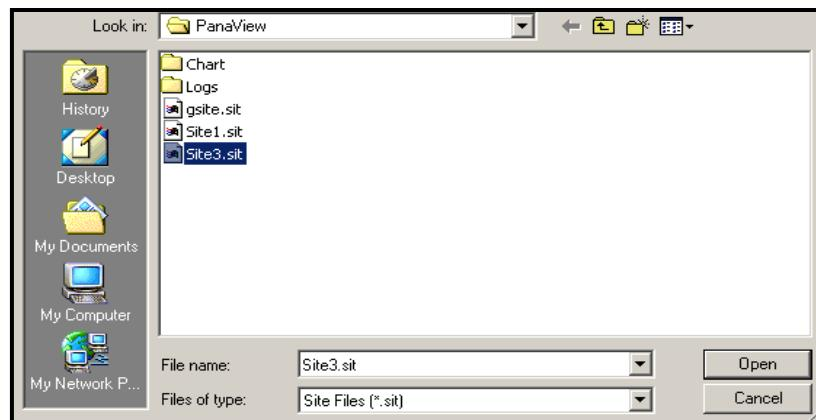

Figure 32: Site File Selection
2. Then click on the *Save Site to Meter* button. A screen opens similar to Figure 32.
3. The *Site File Selection* window (Figure 32 on page 91) opens. Highlight a site with the desired settings, and click [*Open*]. PanaView saves the site in the meter with the new name and the desired settings.
3. The *Site File Selection* window (Figure 32 on page 91) opens. Enter the desired site name (now with a .prt suffix) and click [Save]. PanaView displays a text version of the site, as shown in Figure 34.